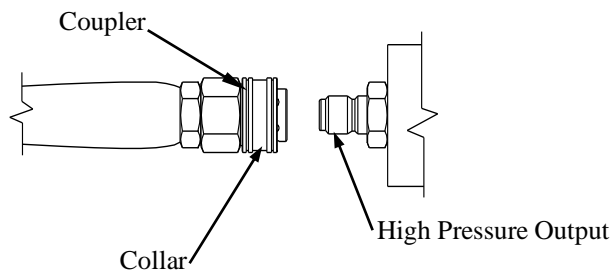

Figure 8a
2. Your pressure washer hose is equipped with quick couplers. Simply pull the collar back and push the coupler onto the water outlet nipple. (Figure 8a).